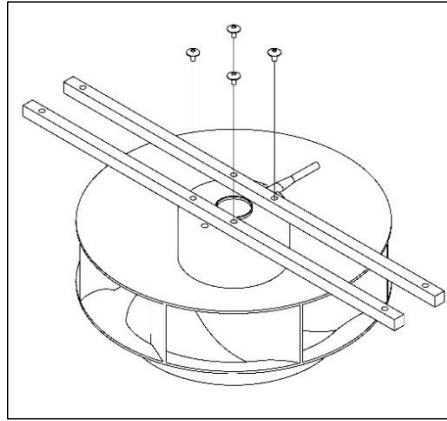

Figure 12
- 6.) Disconnect fan motor from motor bracket by loosening (4) screws with an Allen wrench. See Figure 12.
- 8.) Connect new fan motor to the fan bracket using (4) screws. Tighten with an Allen wrench. See Figure 12.